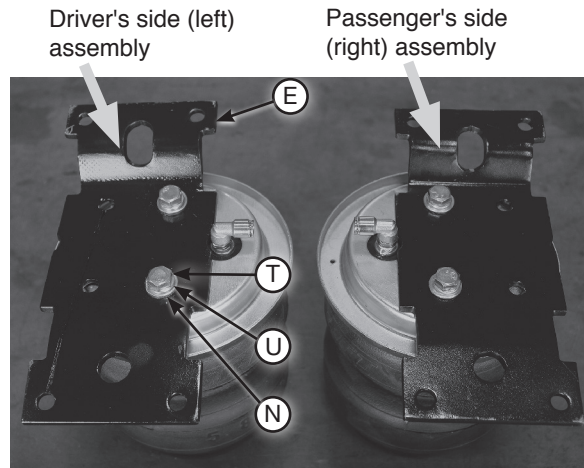

fig. D.7
- Set the upper air spring bracket (E) onto the top of the air spring using one set of holes with the 3/8"-24 x 7/8" hex cap screw (T), 3/8" lock washer (U) and 3/8" flat washer (N) (Fig D.7). Install the remaining bellows bracket onto the remaining air spring, using the opposite holes from those that were previously used. This makes the bellows assemblies into left- and right-hand units. Torque the hardware to no more than 20 lb.-ft. (27Nm).